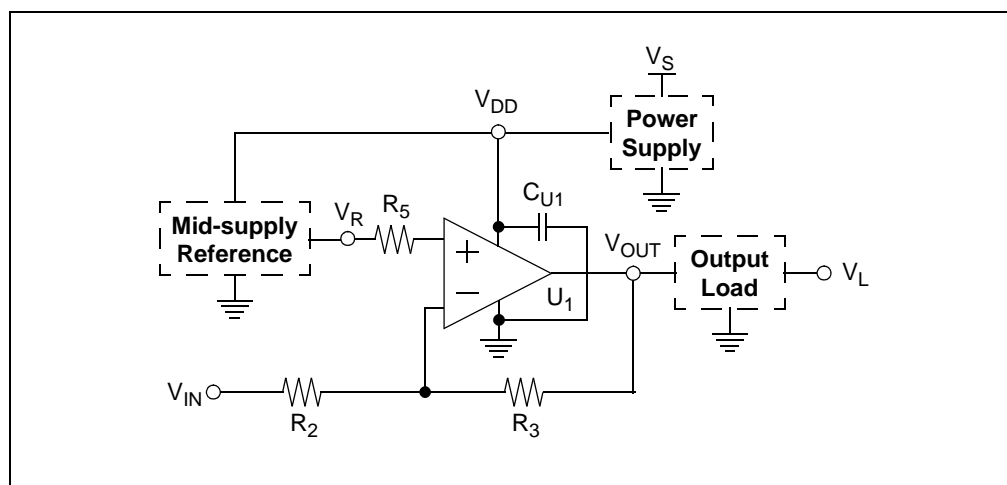

FIGURE 2-6: Inverting Amplifier Circuit Diagram.
- The Mindi™ Amplifier Designer gives design recommendations for an inverting amplifier circuit; see the circuit diagram shown in Figure 2-6